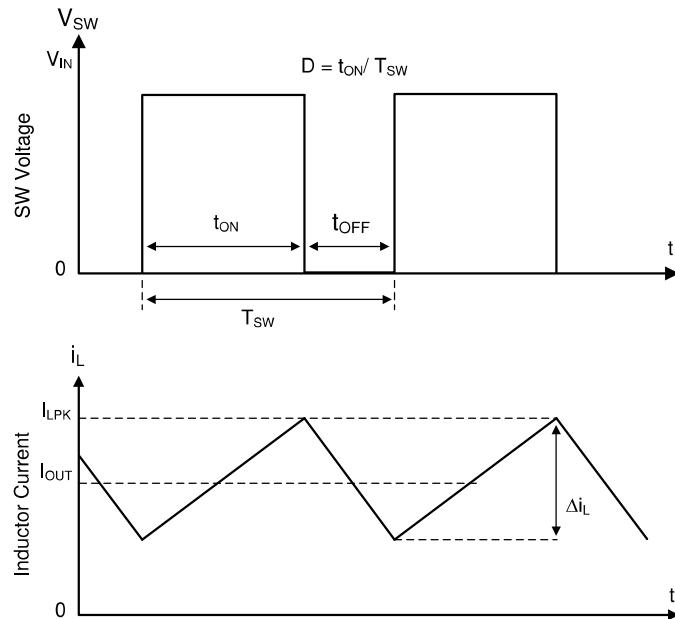

Figure 9-1. SW Node and Inductor Current Waveforms in Continuous Conduction Mode (CCM)
The following operation description of the TPS6293x refers to the functional block diagram and to the waveforms in Figure 9-1. The TPS6293x is a synchronous buck converter with integrated high-side (HS) and low-side (LS) MOSFETs (synchronous rectifier). The TPS6293x supplies a regulated output voltage by turning on the HS and LS NMOS switches with controlled duty cycle. During high-side switch on time, the SW pin voltage swings up to approximately V_{IN} , and the inductor current, i_L , increases with linear slope $(V_{IN} - V_{OUT}) / L$. When the HS switch is turned off by the control logic, the LS switch is turned on after an anti-shoot-through dead time. Inductor current discharges through the low-side switch with a slope of $-V_{OUT} / L$. The control parameter of a buck converter is defined as Duty Cycle $D = t_{ON} / t_{SW}$, where t_{ON} is the high-side switch on time and t_{SW} is the switching period. The converter control loop maintains a constant output voltage by adjusting the duty cycle D. In an ideal buck converter where losses are ignored, D is proportional to the output voltage and inversely proportional to the input voltage: $D = V_{OUT} / V_{IN}$.